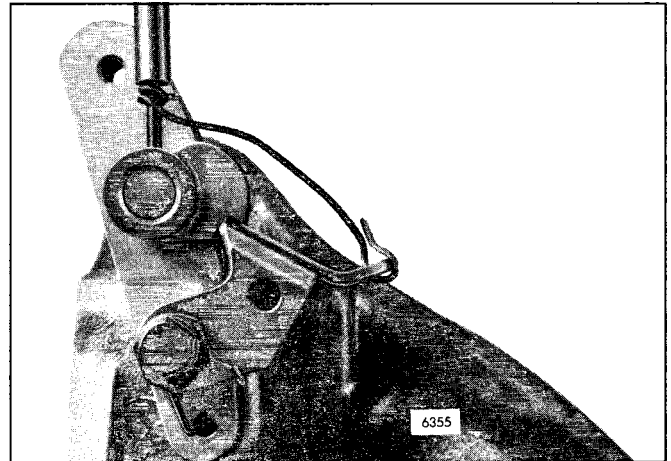

Fig. 4 - Cam and Latch Wired to Prevent Movement
7. Align the notch on the cam with the latch and hold in this position with a piece of stiff wire (Fig. 4).